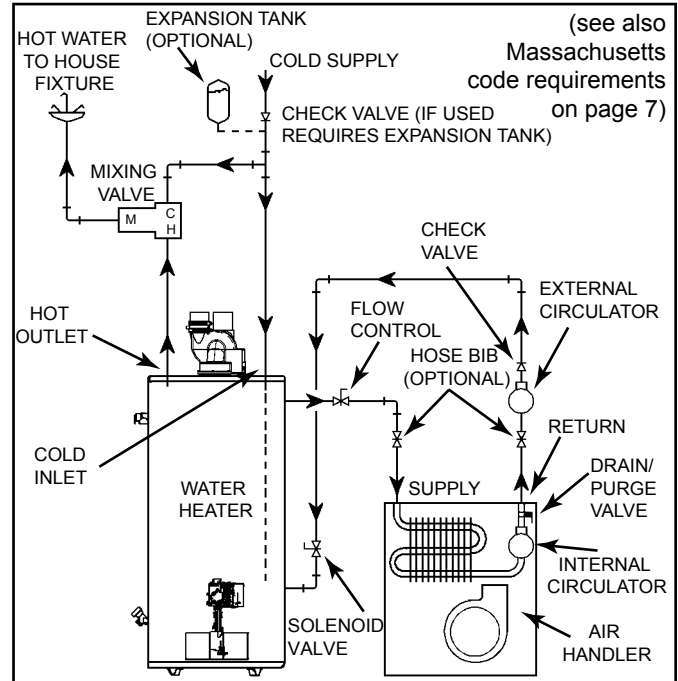
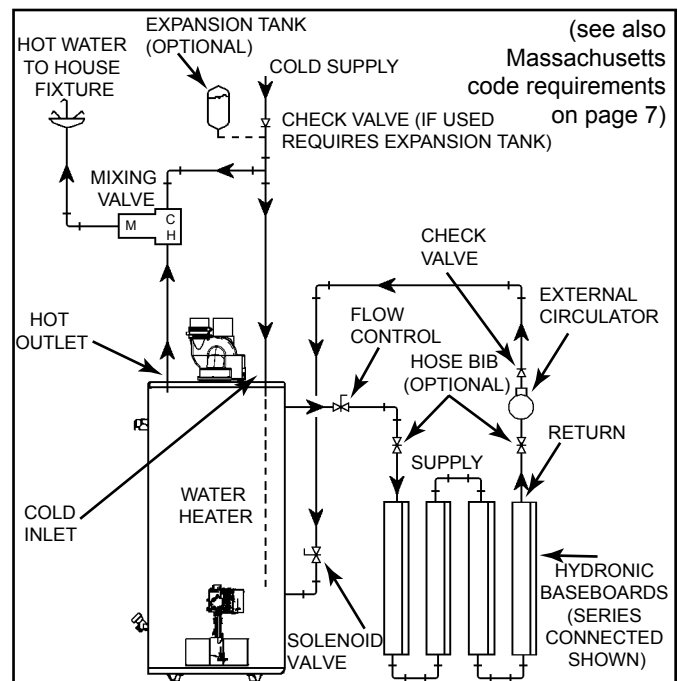

Figure 14.
Figure 15.
8. “Combo” Heating Systems require higher water temperatures than other applications. When the system is used to supply water for Combo Heating applications, a means, such as mixing valve, must be installed to temper the water in order to reduce scald hazard potential (see Figure 14 & Figure 15).
- A. A fan coil/air handler (Figure 14).
- B. A hydronic baseboard (finned tube) loop/In floor heating (Figure 15).